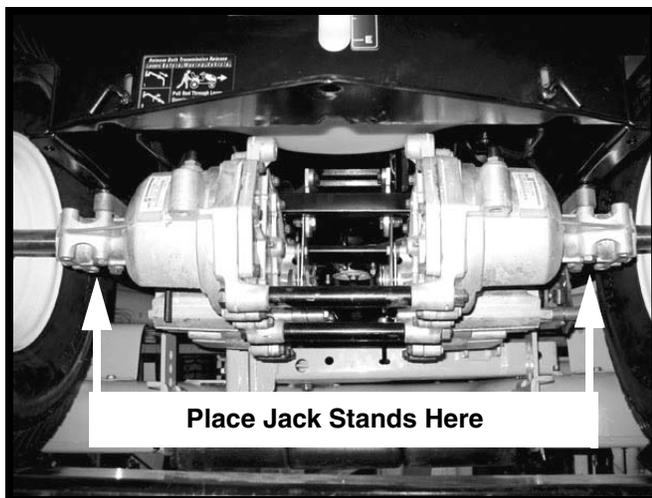

FIGURE 1
5. Jack up the rear of the tractor & place jack stands as shown in Figure 1.